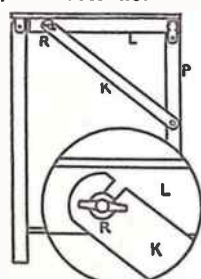

Fig. 7
Next, make the stay (K) seen in Fig. 7. This is necessary to keep the waggon firm. There should be one at each end. They should be made of $\frac{1}{2}$ in. by $\frac{1}{2}$ in. wood, or thereabouts, and rounded at the ends.
The top end of the stay (R) is fashioned as in the inset, Fig. 7, and is held firmly by bolt and wing nut and washer. The pivot at (R) is 12 $\frac{1}{2}$ ins. along from the back, and that at (P) is 12 $\frac{1}{2}$ ins. down from the top. The stay is 17 $\frac{1}{2}$ ins. long, and the positions of the holes in it should be found by placing it in position.